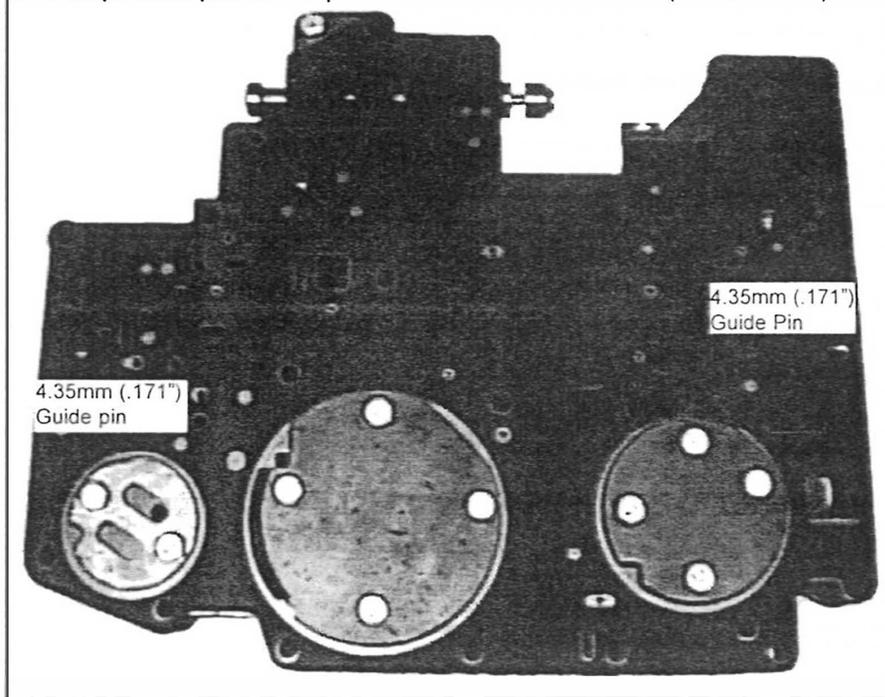
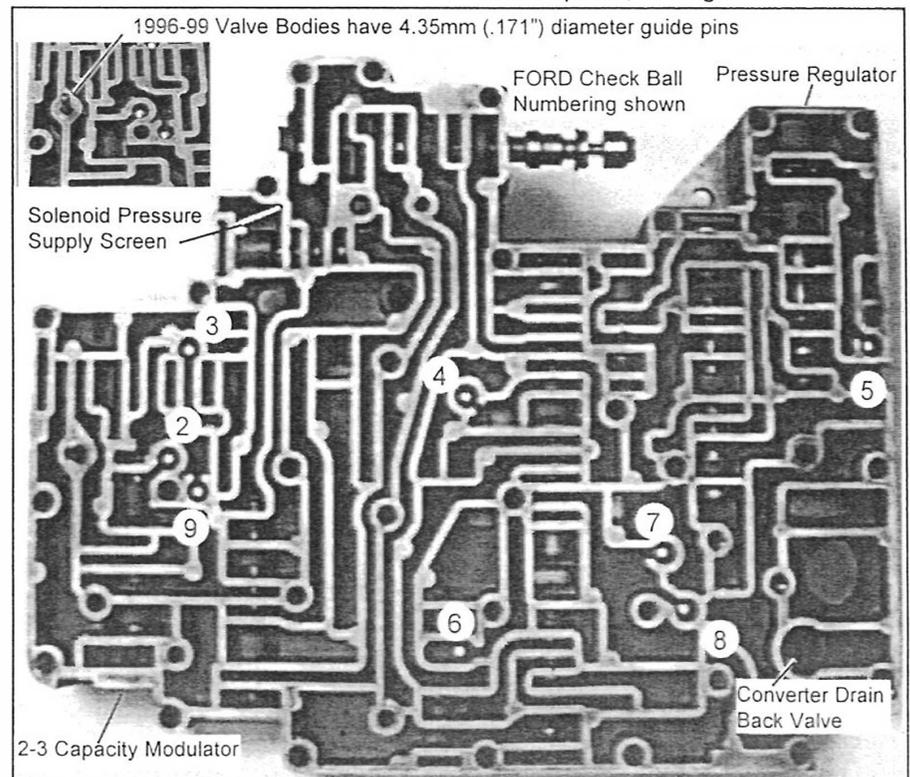

Figure 3. '96-'99 (TYPE B) Valve Body & Cover Plates
Figure 9. 1996-1999 Check Ball Placement (TYPE B Valve Body)
valve body on a clean surface with the separator plate side facing up. Make a note of the orientation of the three round reinforcement plates (See Fig. 3). Remove the eleven (11) 8mm hex head bolts holding the three (3) round reinforcing plates and separator plate to the valve body. Carefully lift the separator plate and gaskets off the valve body. Remove Check Balls, Solenoid Pressure Supply Screen and Converter Drain Back Valve (See Fig. 9). Remove all of the old separator plate gasket material from the case, valve body and separator plate surfaces. Rinse parts with solvent.
**Step 12.** Install all 8 Check Balls, Solenoid Pressure Supply Screen and Converter Drain Back Valve into valve body (See Fig. 9). Make sure the two (2) guide pin bolts are installed in the valve body. Next, place the separator plate with gaskets on the valve body and install the three (3) circular reinforcement plates and eleven (11) 8mm hex head bolts. Torque the bolts to 9-11 Nm (80-100 lb\*in).